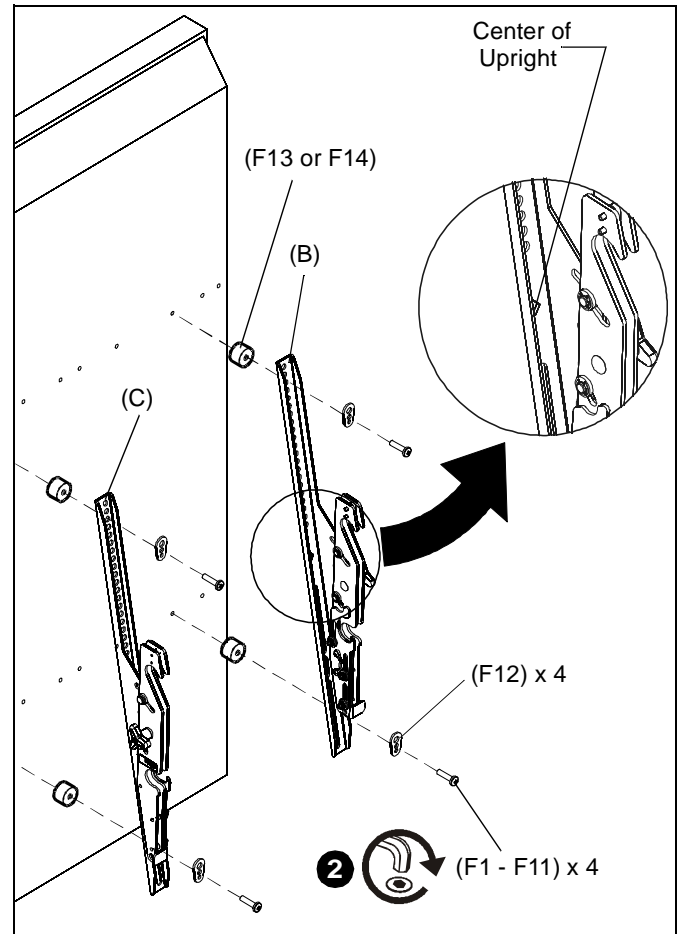

Figure 5
1. Vertically align the center of the uprights (B and C) with center of screen. (See Figure 5)
2. Select correct screws, spacers (if necessary) and washers from the hardware bag (F) and attach brackets to back of display. (See Figure 5)